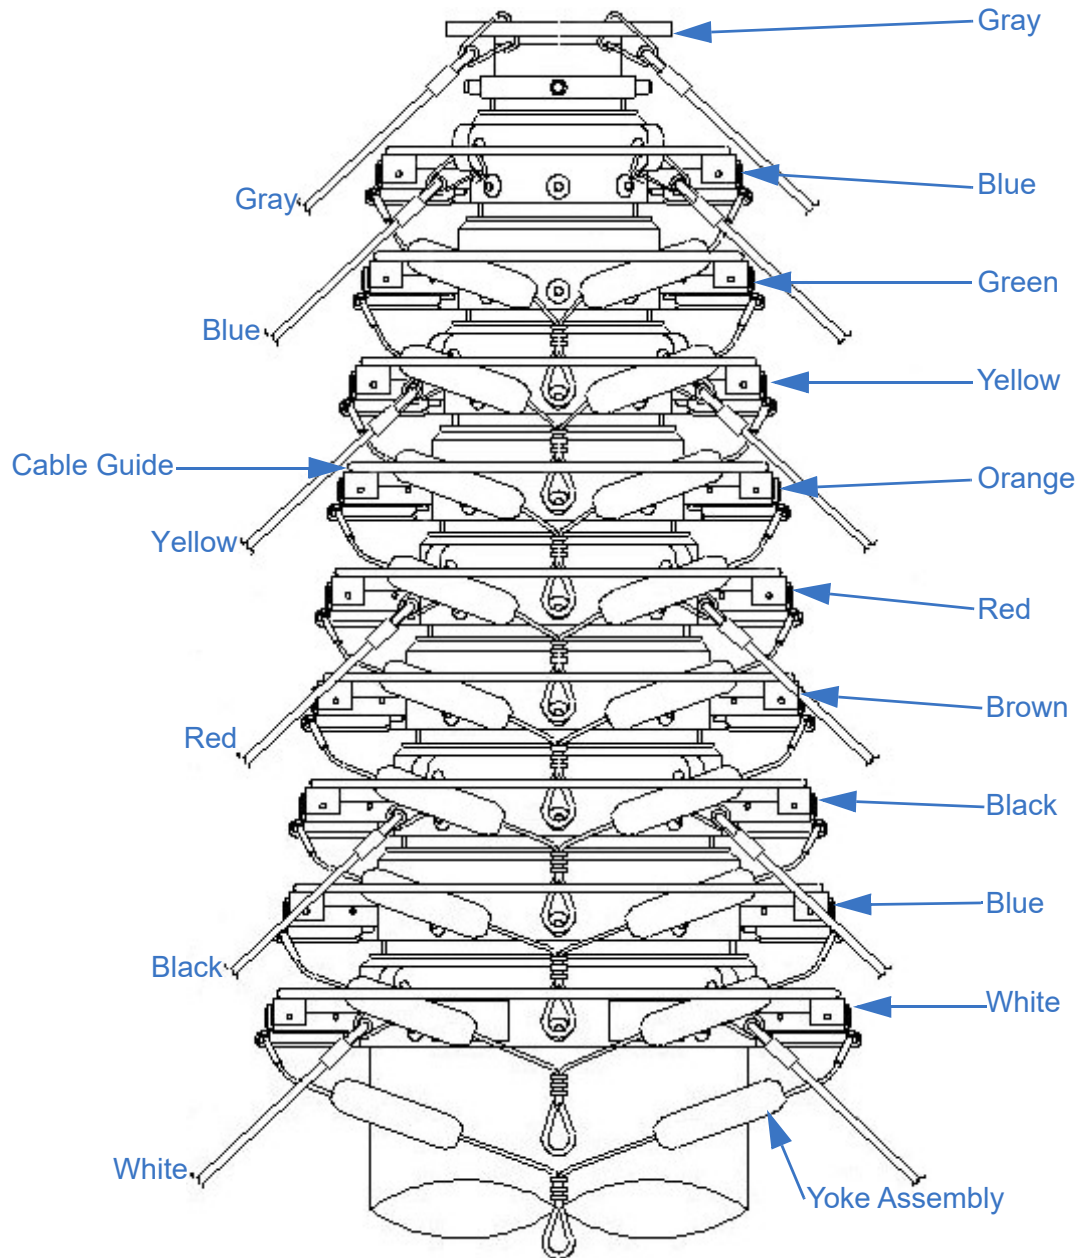

Figure 6-3 Sample of Guy Line Attachment on a Mast with Cable Guides (Mast with Trip Lines Shown)
4. If guy lines are used, attach the guy lines to the color-coded lugs on the collars. If cable guides are present, ensure the guy lines are outside the cable guides for the collars below where they attach (Figure 6-3).